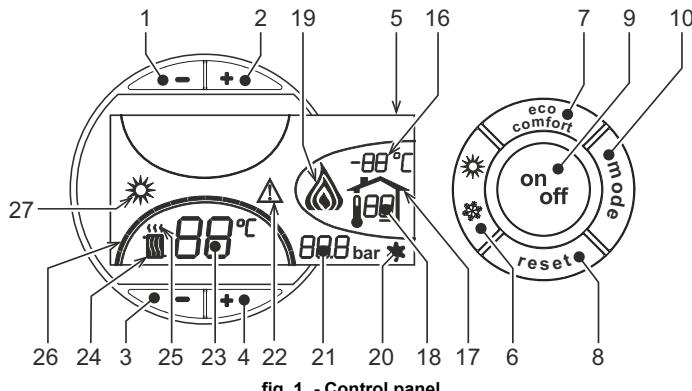
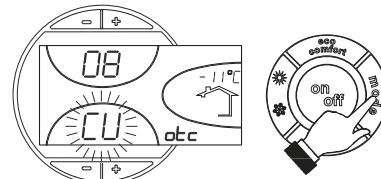
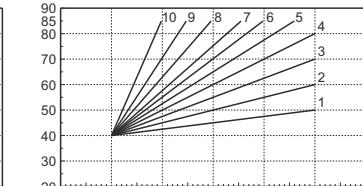

fig. 1 - Control panel
fig. 9 - Compensation curve
fig. 12 - Example of compensation parallel curve offset
Press the on/off button (detail 9 - fig. 1) for 1 second.
To relight the boiler, press the on/off button (detail 9 - fig. 1) again for 1 second.
- Press the ON/OFF button (9 - fig. 1)
Press the **summer/winter** button (detail 6 - fig. 1) for 1 second.
The display activates the Summer symbol (detail 27 - fig. 1): the boiler will only deliver domestic hot water. The antifreeze system remains activated.
To deactivate the Summer mode, press the **summer/winter** button (part. 6 - fig. 1) again for 1 second.
Use the **heating buttons** (details 3 and 4 - fig. 1) to adjust the temperature from a min. of 30°C to a max. of 80°C.
Use the DHW buttons **-/+** (details 1 and 2 - fig. 1) to adjust the temperature from a min. of 10°C to a max. of 65°C.
When the optional external probe is installed the control panel display (detail 5 - fig. 1) shows the actual outside temperature read by the probe. The boiler control system operates with "Sliding Temperature". In this mode, the temperature of the heating system is adjusted according the outside weather conditions, in order to ensure high comfort and energy saving throughout the year. In particular, as the outside temperature increases, the system delivery temperature is decreased according to a specific "compensation curve".
With Sliding Temperature adjustment, the temperature set with the heating buttons **-/+** (details 3 and 4 - fig. 1) becomes the maximum system delivery temperature. It is advisable to set a maximum value to allow system adjustment throughout its useful operating range.
Press the **mode** button (detail 10 - fig. 1) once to display the actual compensation curve (fig. 9), which can be modified with the **DHW buttons** (details 1 and 2 - fig. 1).
Press the **heating buttons** (details 3 and 4 - fig. 1) to access parallel curve offset (fig. 12), modifiable with the **DHW buttons** (details 1 and 2 - fig. 1).
Press the **mode** button (detail 10 - fig. 1) again to exit parallel curve adjustment mode.
If the Remote Timer Control (optional) is connected to the boiler, the above adjustments are managed according to that given in table 1. Also, the control panel display (detail 5 - fig. 1) shows the actual room temperature detected by the Remote Timer Control.